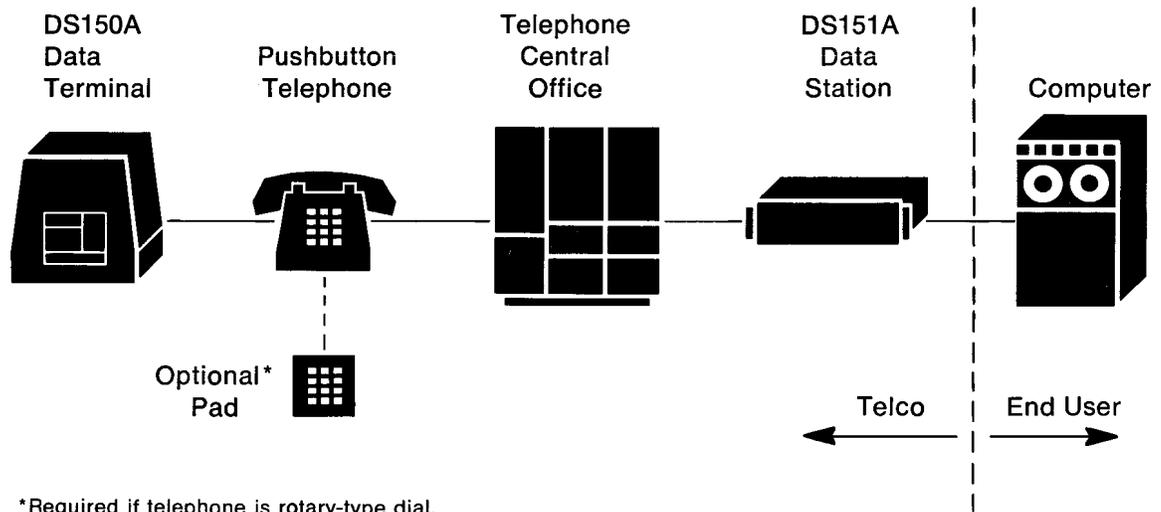

Figure 1, Simplified VuSet System
1.02 The system includes the VuSet Data Terminal Model DS150A, which is the remote data display device, and the VuSet Data Station Model DS151A, which provides the interface between the telephone network and the customers' computer (DTE). See Figure 1.